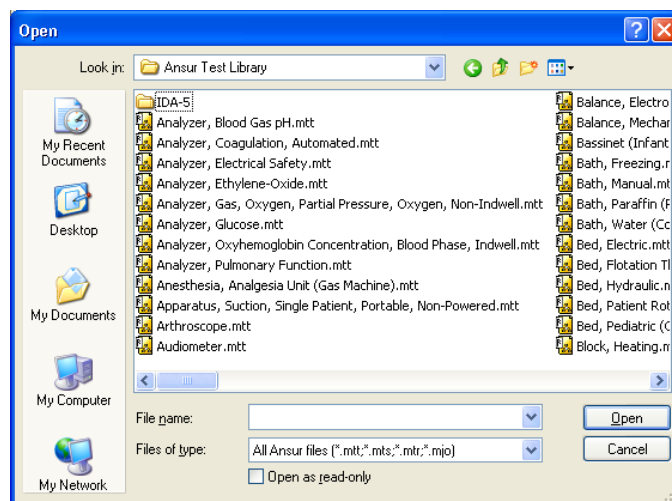

Figure 3-2. Browse the Ansur Test Library
2. Browse to the folder where Ansur was installed and double-click the Ansur Test Library folder. See Figure 3-2. The usual location is C:\Program Files\Fluke but can have a different name.